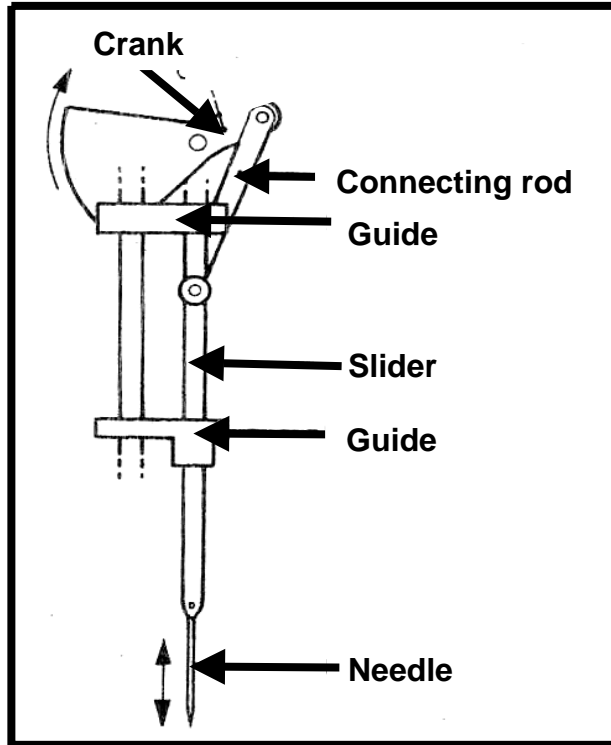

FIGURE 1.6
- 1.18 FIGURE 1.6 shows an industrial sewing machine. The machine uses the crank and slider mechanism to produce reciprocating motion at the needle. At what speed does the crank rotate if the needle moves down 120 times per minute at its slowest operating speed?